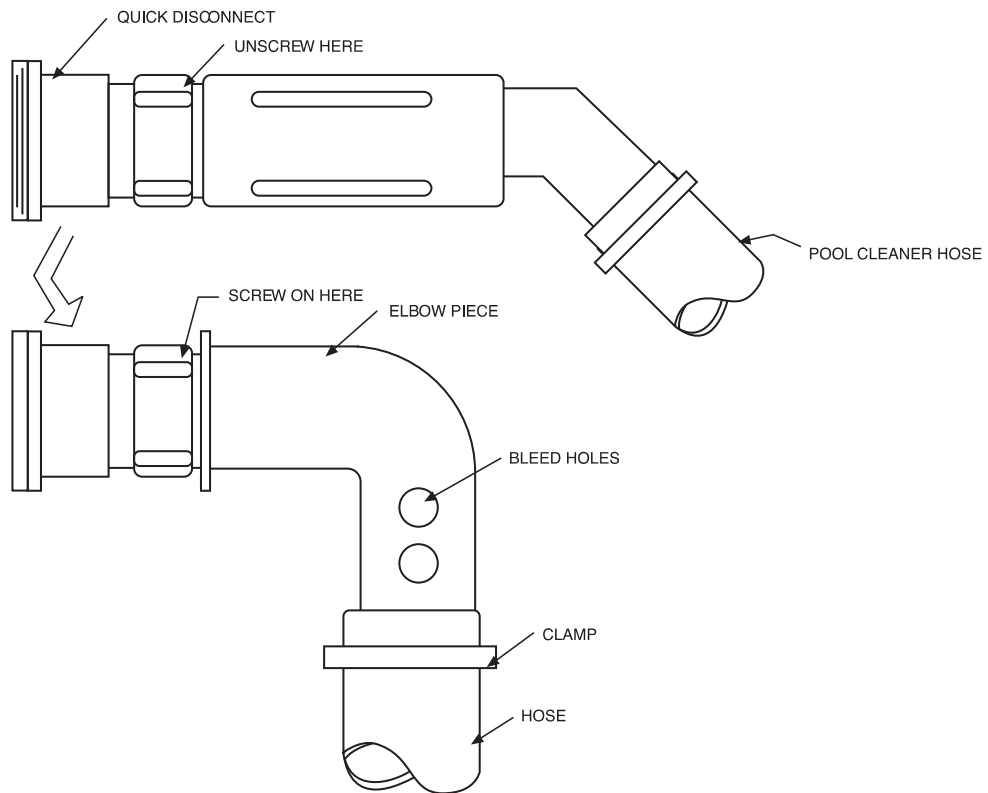

FIGURE 7
Pool cleaner quick disconnect fittings. Refer to Figure 7. Use installation **instruction 4, page 6** for this type inlet.
2. Unscrew the end of your pool cleaner hose fitting as Indicated in Figure 7. Screw the quick disconnect fitting on to the threaded end of the Elbow Piece (6). This is your inlet adapter.
3. Refer to Figure 1. Uncoil the hose (3) and remove all twist. Using clamps (15), clamp one end of the hose to the back side of the fountainhead (1) and the other end to the inlet adapter from step 2. Cover one set of bleed holes with the hose (Fig. 7). To tighten clamp, grasp "tabs" between thumb and forefinger and squeeze. Tighten securely with a pair of pliers. To open the clamp, grip one "tab" of the clamp with pliers and twist loose.
4. Using the tie wrap (14), LOOSELY attach the anchor (4) to the hose (3). The anchor (4) should be attached to the hose (3) at a point as deep as the water plus approximately two feet. You will have to estimate what the water depth is where you want the fountain and add two feet. CAUTION: DO NOT CONSTRICT THE HOSE BY TIGHTENING THE TIE WRAP (14) TOO TIGHT.
6. Place the fountain assembly into the pool. Position the fountain in the desired location being careful not to crimp the hose (3).
Height adjustment is achieved by covering more or less of the bleed holes (Fig. 7) on your elbow piece (6) with the hose (3). The more holes covered, the higher the fountain and vice versa.